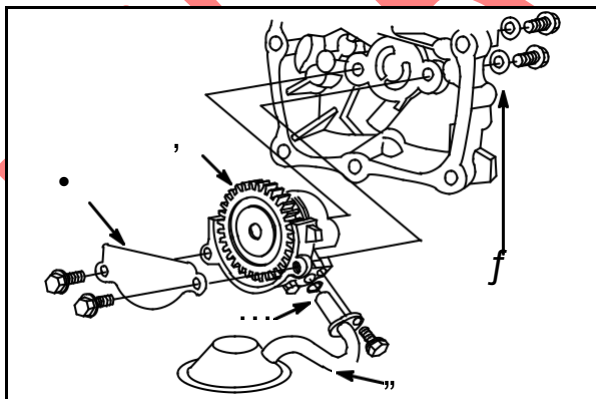

Fig. 6
Install a new O-ring (5) to the pickup tube and screen assembly (4). Install the pickup tube assembly to the oil pump (2), **Fig. 6**.